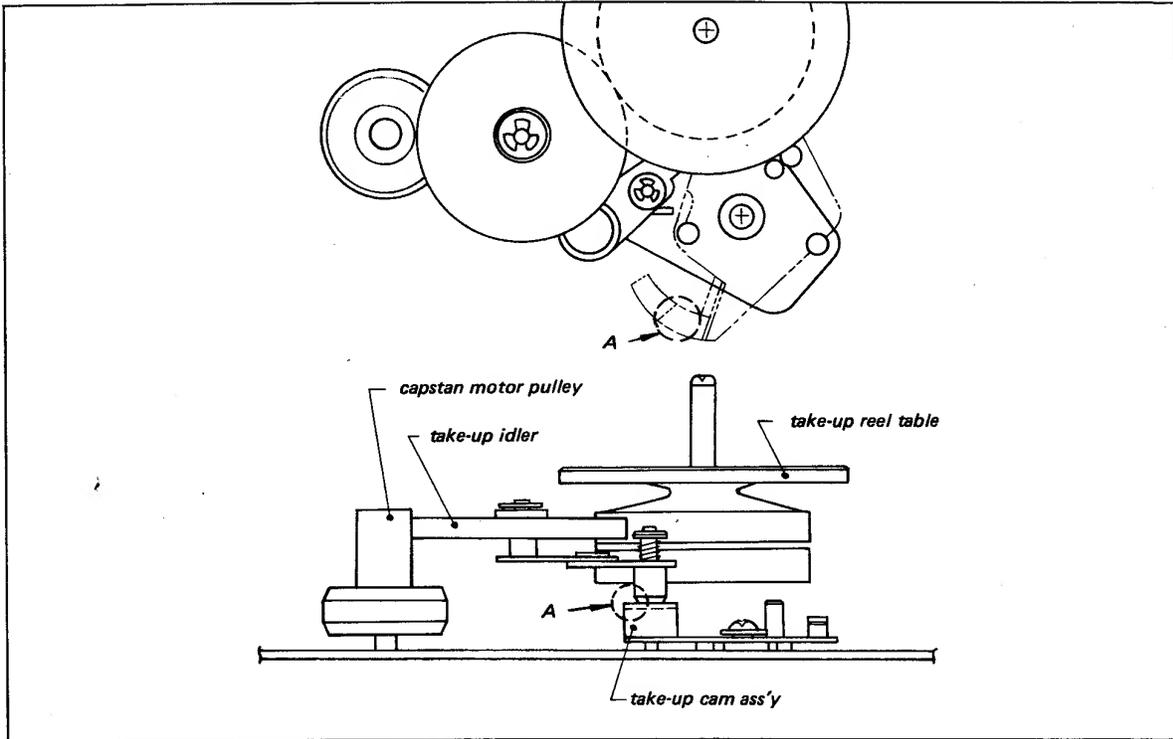

Fig. 4-12. Take-up idler height
2. If this condition does not exist, place the Function Lever in the FORWARD position. Bend Finger A with a pair of pliers as shown in Fig. 4-12. To obtain the correct Take-up Idler height.